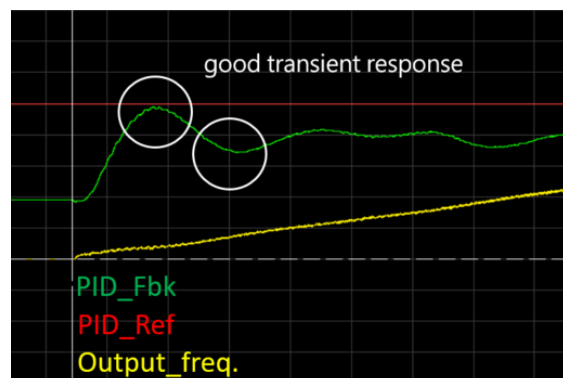

Figure 9
- ✓ Using our new parameter, integral separation, and setting the integral intervention interval to 30% can significantly improve the overshoot and undershoot, as shown in Figure 9.